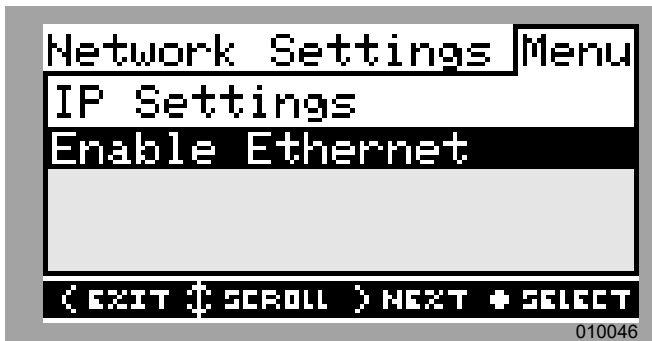

Figure 6-25. Ethernet Configuration (2 of 4)
- See Figure 6-25. Use the up and down arrows to highlight Enable Ethernet then press the center button.